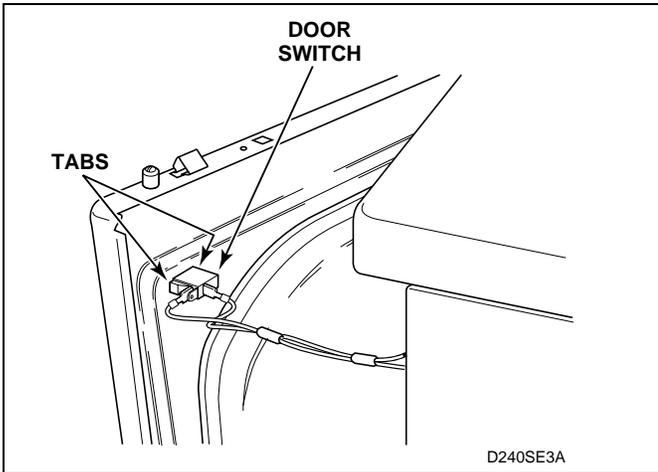

Figure 25
1. Disconnect wires from door switch. See *Figure 25*.
- k. Disconnect wires from door switch. See *Figure 25*.
- l. Disconnect wires from door switch. See *Figure 25*.